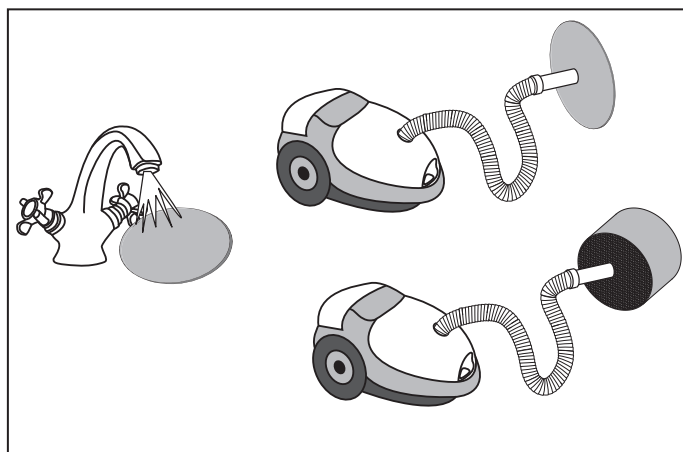

Fig. 25. Cleaning of the filters and the heat exchanger
- Clean the filters as often as required, but at least once in three months. After 90 days non-stop operation the sound signal reminds of the need to clean or replace the filter. The signal is repeated every 5 minutes. Turn the unit off and clean or replace the filters. To clean the filters flush those with water or use a vacuum cleaner, fig. 25. Install the dry filters inside